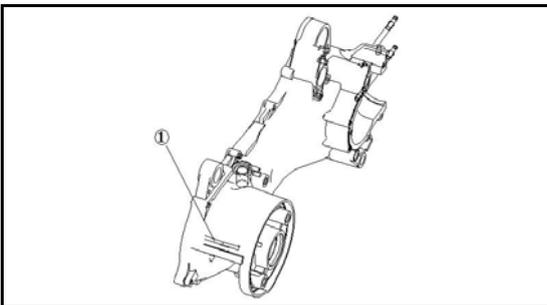

Fig. 1-2
2. The engine serial number is printed on the shell of crankcase. See fig. 1-2.